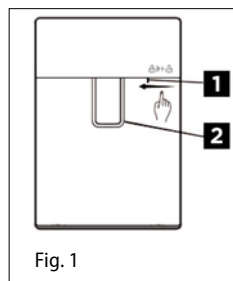

Fig. 1
- Push the child lock lever (1) with your thumb as shown. The water dispenser (2) will be locked. In the opposite direction, release the lock with the lever. (Fig. 1)